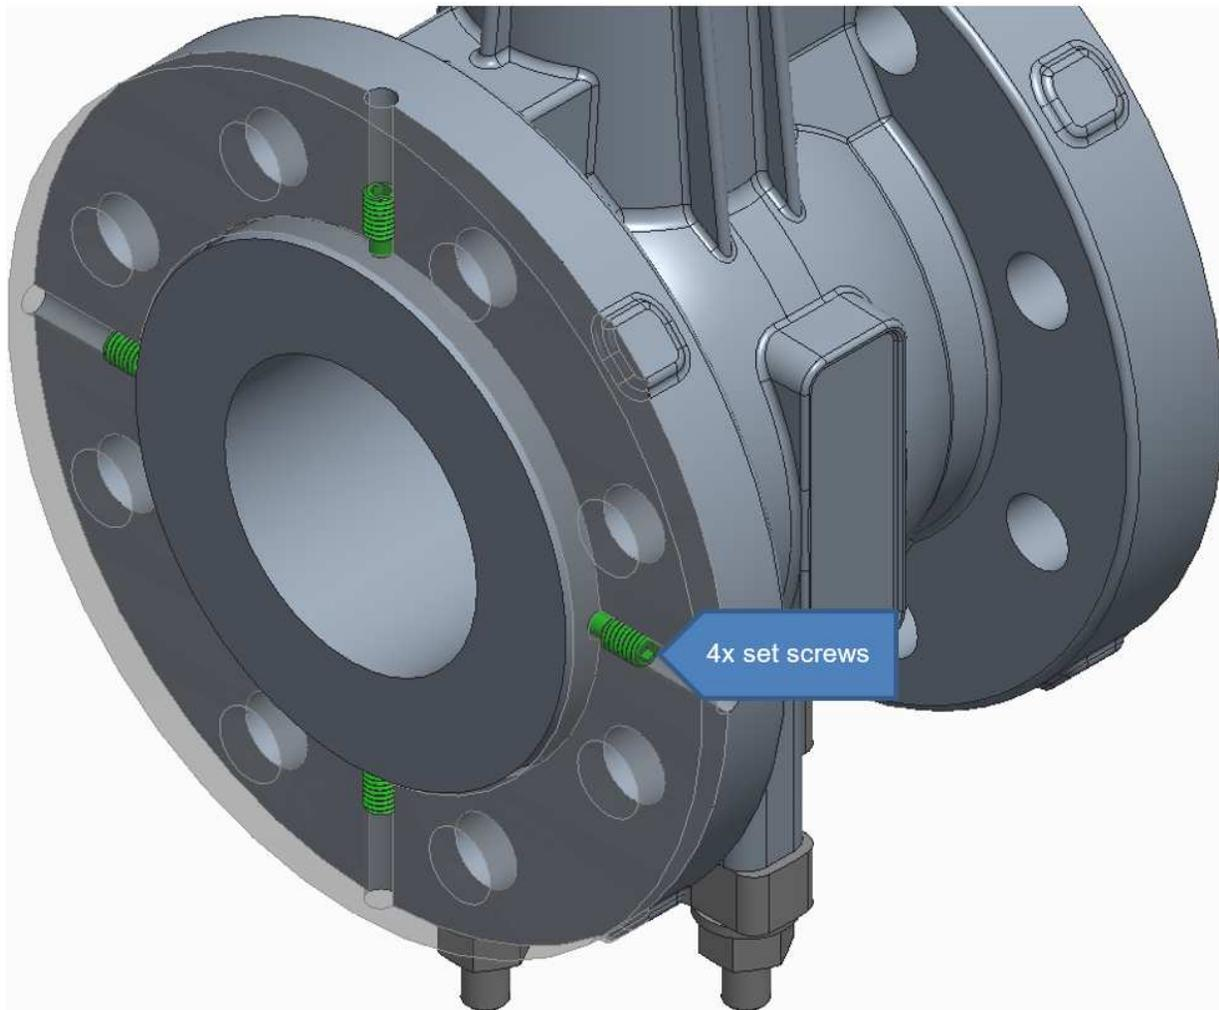

Figure 3. Partially transparent view of updated design showing set screws that provide greater alignment stability
The updated design adds four (4) set screws around the tube that restrain the position of the sleeve as illustrated in Figure 3. Do not attempt to adjust these factory calibrated screws. Adjusting the screws reduces their effectiveness and can damage the valve trim.